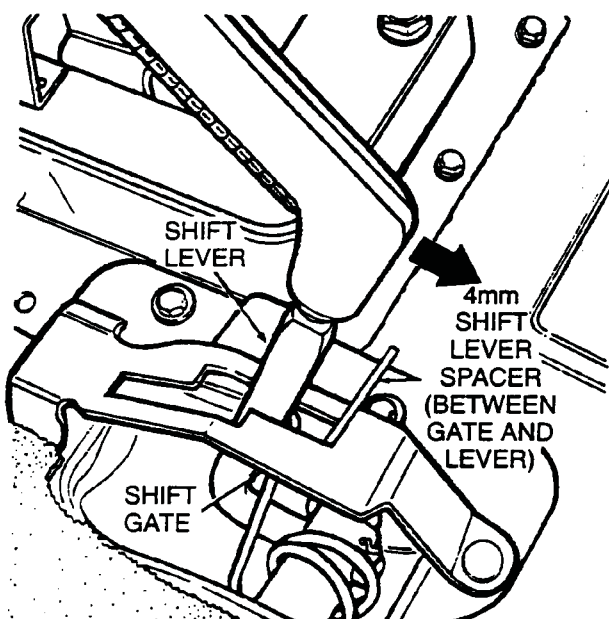

Fig. 3-4 Installing Shift Lever Spacer-60/70 Series
3. Insert a 4 mm (.157 inch) spacer between the shift lever and forward edge of the shift lever gate (Fig. 3-4). Secure the lever and spacer in place with tape or wire.